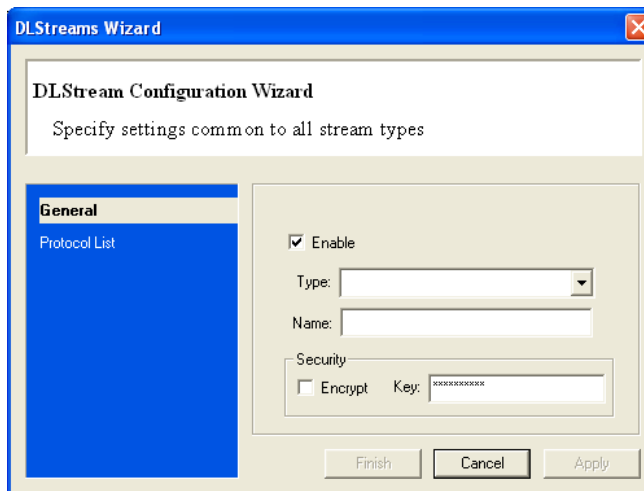

Figure 3: DLStreams Wizard
3. In the DLStreams Wizard window (*Figure 3*), enter the following settings:
6. Back in the DLStreams Wizard window (*Figure 3*), enter the following settings: